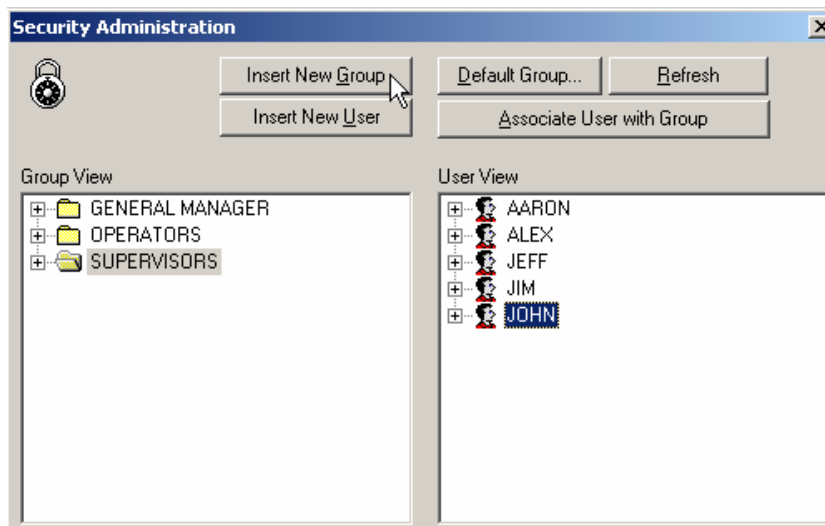

Figure 9.50. Adding a New Group
1. Click the **Insert New Group** button, as shown in **Figure 9.50**.